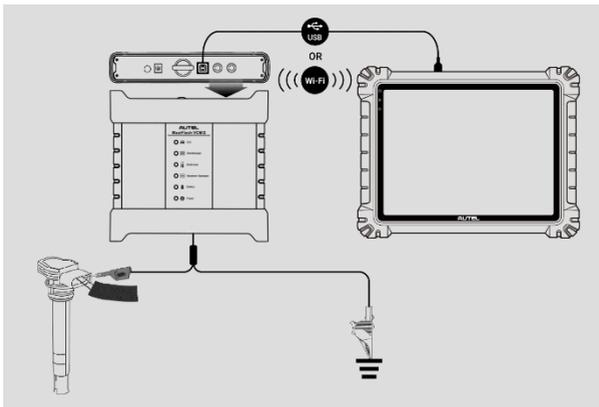

Figure 9-1 Connection Diagram
1. Insert the applicable test lead or probe terminal ends into the input channel(s) to complete the connection. (See Figure 9-1 Connection Diagram.)